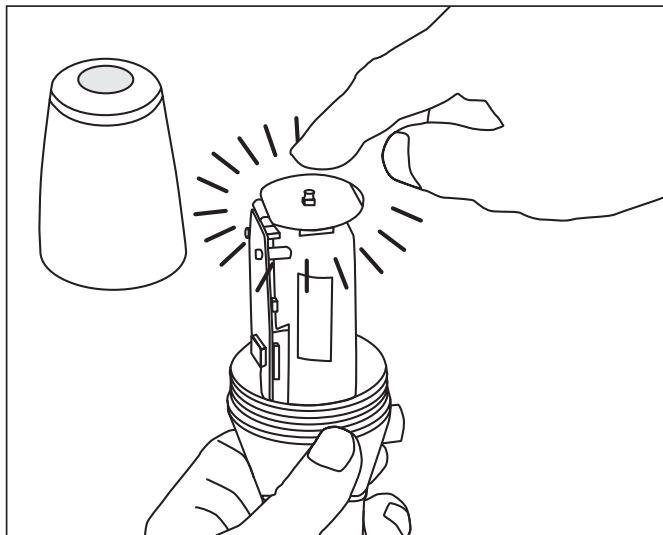

Figure 6
2. Press and hold the top "Reset" button down for 15 seconds (see figure 6). The LED will flash red and green.